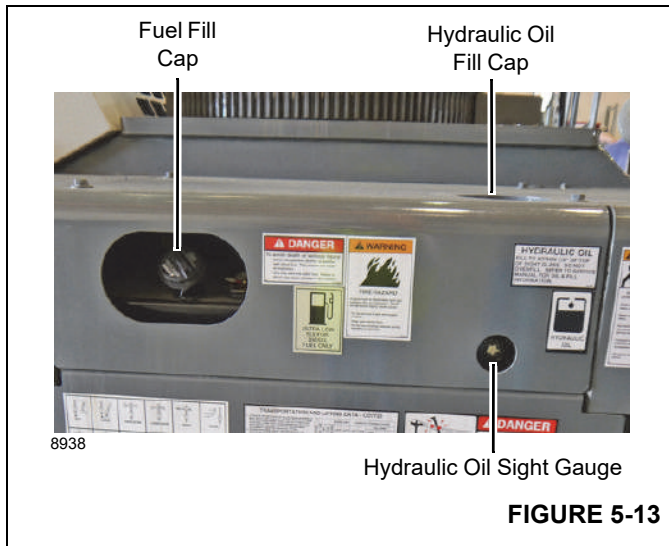

FIGURE 5-13
Check the fuel level daily before operation. Turn the ignition key to the ON position and view the fuel gauge on the instrument panel. If necessary, fill the tank (Figure 5-13) with recommended fuel.
3. Visually check the oil level on the hydraulic oil level sight gauge (Figure 5-13). The hydraulic oil should be 3 mm